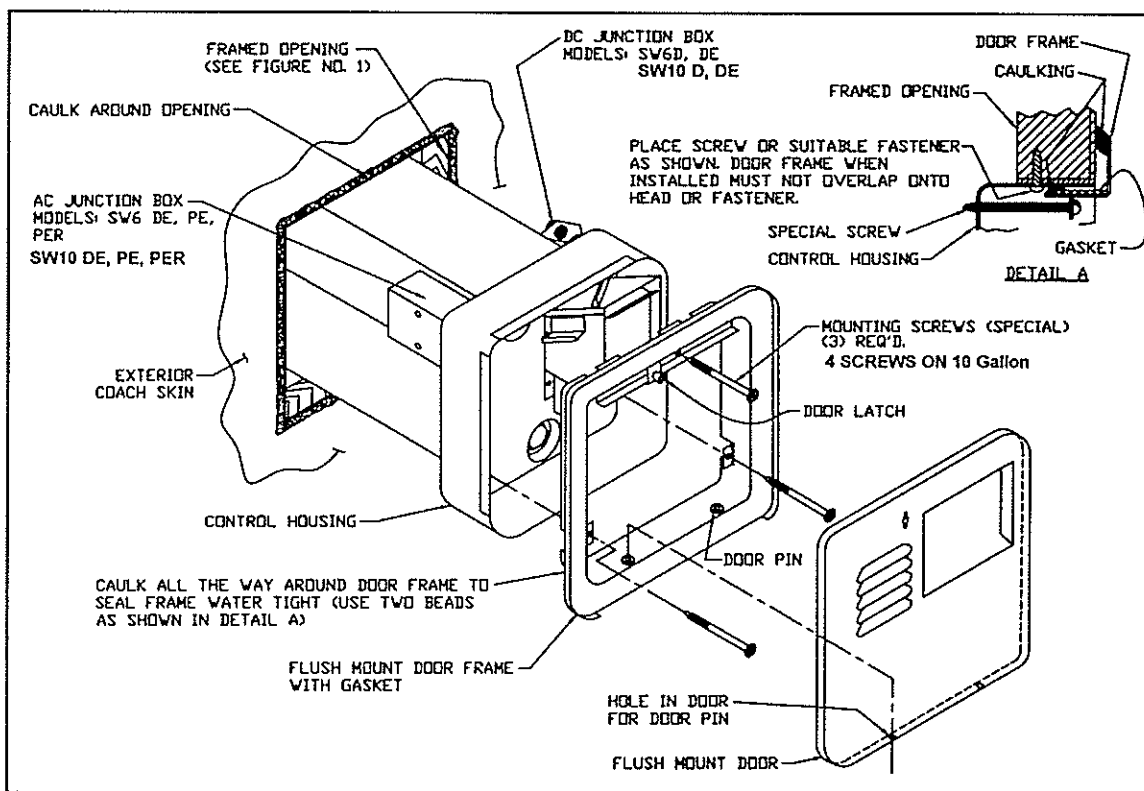

Figure 2
E. Caulk around framed opening as illustrated in Figure 2.
F. Caulk around door frame using 2 beads of silicone caulking (or suitable caulking) one on the flange to seal the control housing and one around back side of frame to seal to coach skin. (See detail A in Figure 2)
G. Insert door frame into control housing and secure with four (4) No. 8-15 x 3 1/2" screws provided for 10 gallon applications and (3) No. 8-15 x 3 1/2" screws provided for 6 gallon applications.
- A.** Refer to Figure 2 for location of A.C. and D.C. junction box on specific models. All A.C. connections must be inside junction box.